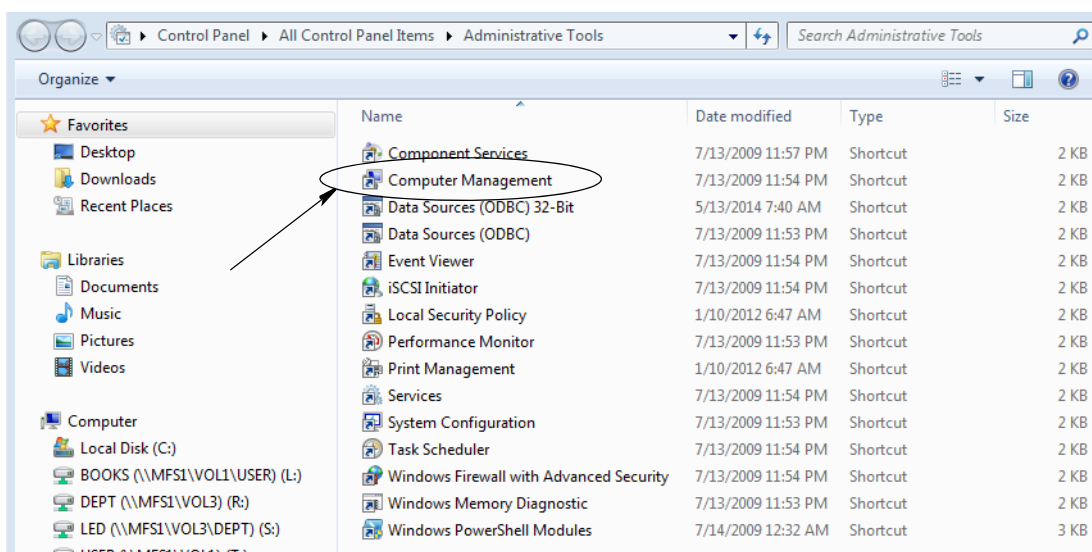

FIG. 212
- b. Double click on the Computer Management Link (FIG. 212).